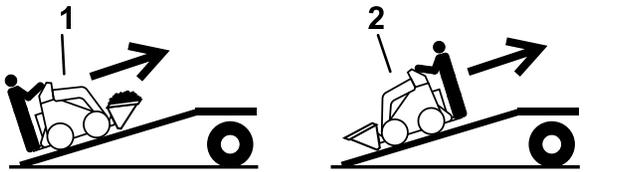

Figure 7
5. Load the machine onto the trailer with the heavy end up the ramp, carrying loads low (Figure 7).